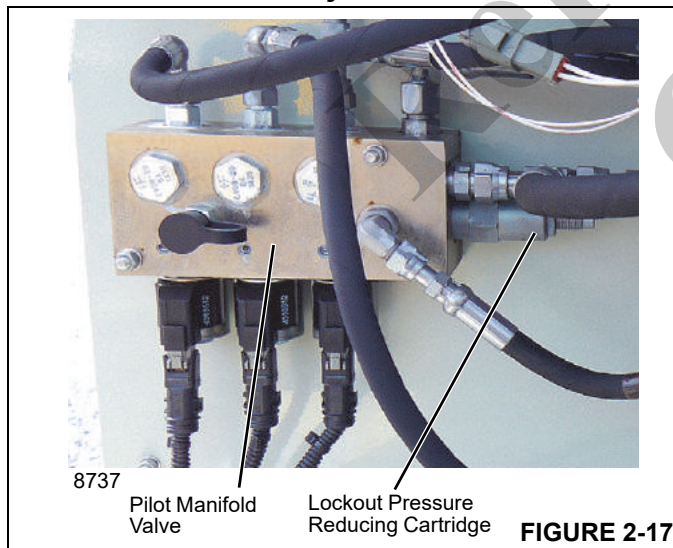

FIGURE 2-17
Supply oil from the pump is directed to Boom Down, Telescope Extend, and Hoist Up control levers to keep them from being operated. When the crane is not locked out or is in A2B condition, the pilot manifold valve (Figure 2-17) is
- If the pressure is not correct adjust the lockout pressure reducing cartridge located in the lockout manifold (Figure 2-17). Screw "in" to increase or "out" to decrease to achieve the correct pressure.